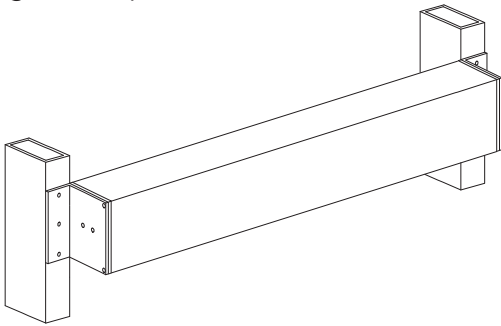

Figure 3-3
- 3.4.** For aluminum storefront or aluminum tube frame, install the header with horizontal mounting brackets to the jams per the instructions supplied with the horizontal mounting brackets (Figure 3-3).